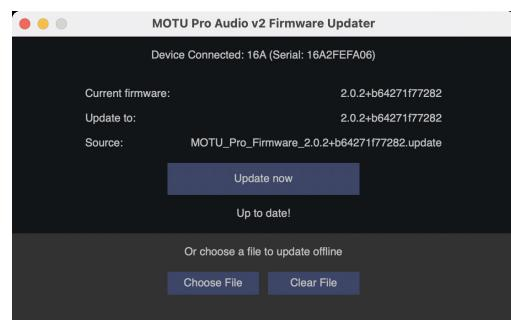

Figure 6-14: The 10pre Firmware Updater app.
- ☞ This step requires that the unit already has firmware version 2.1.5 or later. If not, use the Firmware Updater app (Figure 6-14 on page 61), accessed from the File menu.
- 1 Choose *File menu > Open Firmware Updater* to launch the updater app (Figure 6-14).
- 3 Once the firmware image is loaded, click the *Update Now* button (Figure 6-14).